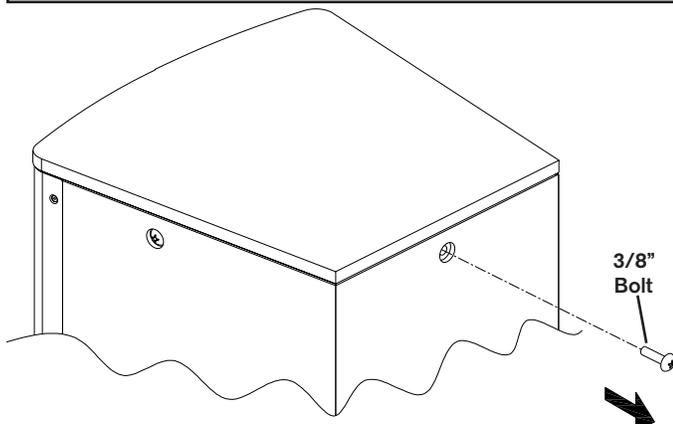

Figure 2: Removing the 3/8" Bolts from the Loudspeaker
1. Remove the 3/8-16 shoulder bolts from the speaker (See Figure 2).